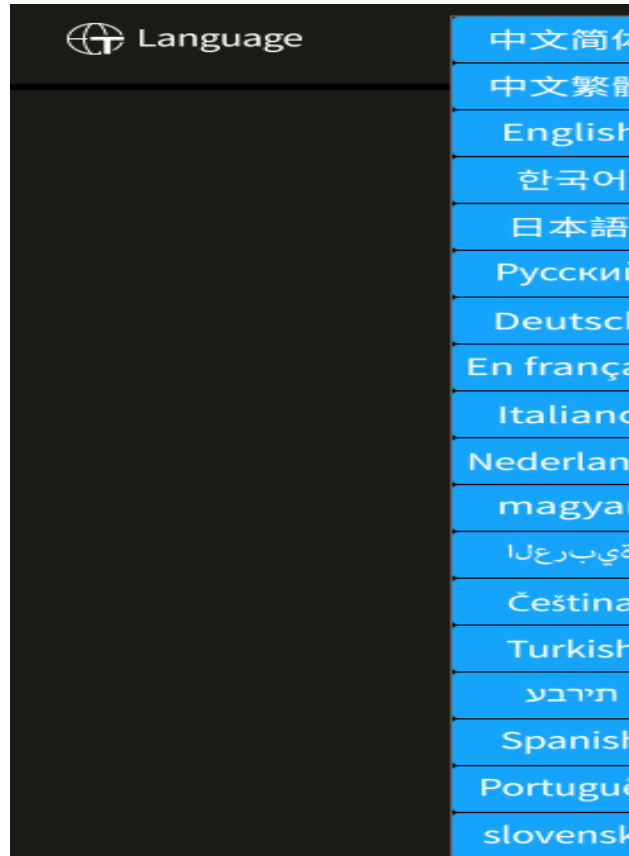

Figure 1.6 System software language selection interface
5. In the upper right corner of the home page, you can click the language button to switch the display language of the system software, as shown in Figure 1.6.